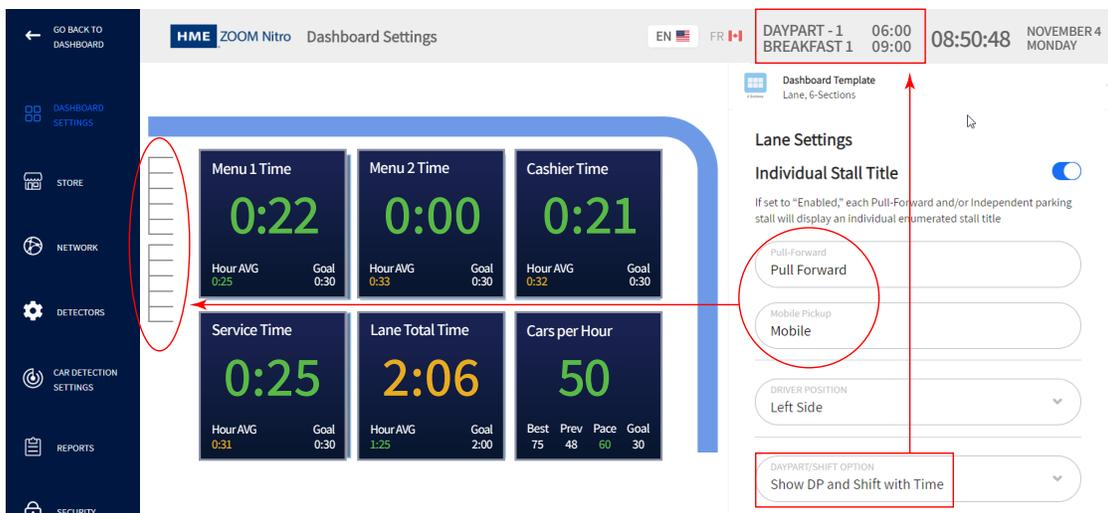

Fig. 3.13
| <div style="border: 1px solid #ccc; border-radius: 10px; padding: 5px; width: fit-content;"> <small>DAYPART/SHIFT OPTION</small> Show DP with Time ▼ </div> | <p>DAYPART/SHIFT OPTION: Different combinations of Daypart (DP), Shift, and Time can be selected here to be displayed at the top of your Dashboard screen (see Fig. 3.13).</p> |